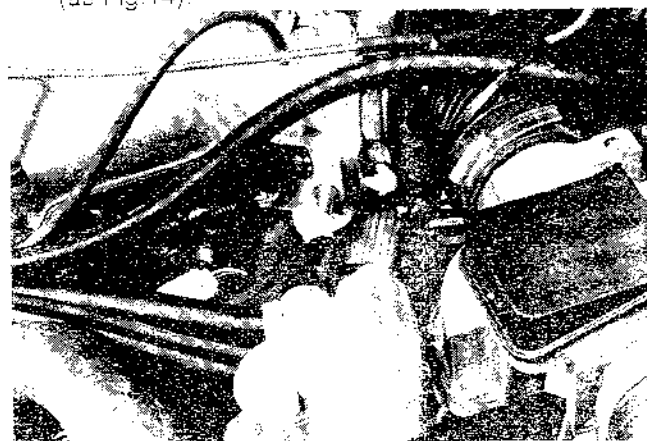

Fig.15
- 6 Disconnect the crankcase ventilation pipe from its connection near the throttle butterfly, and seal the port (as Fig.15).